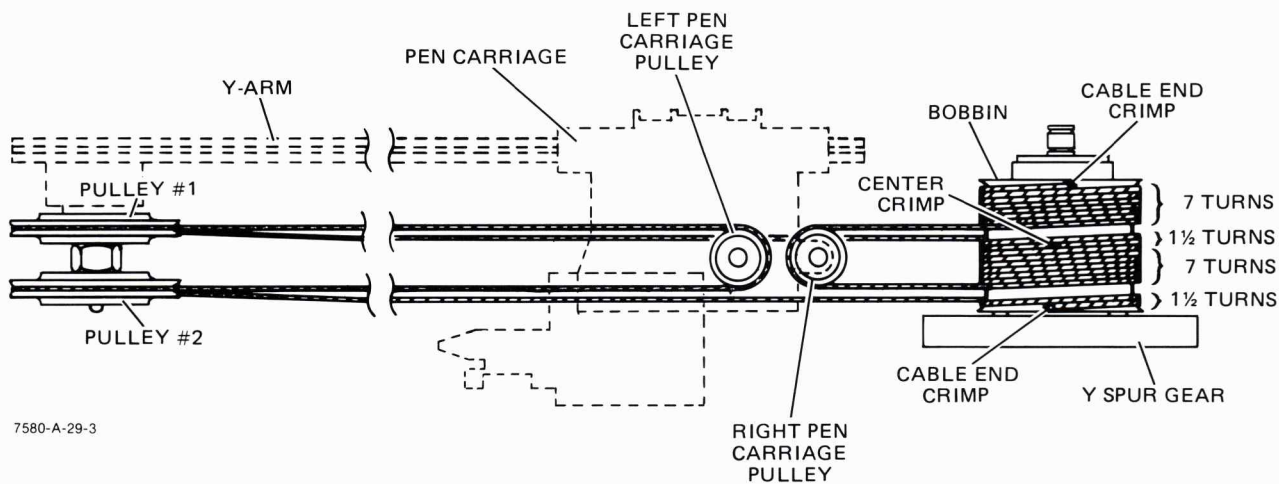

Figure 6-9. Y-Drive Cable Stringing Diagram
6-147. The Y-drive cable stringing diagram is shown in Figure 6-9, Detail B. To string the Y-drive cable, proceed as follows:
- a. Remove the Y-arm assembly from the plotter and position it with the bobbin to the right facing you. To prevent damaging the motor/encoder assembly, set the Y-arm assembly on a flat surface with the right end projecting off the edge of the surface. See Figure 6-9, Detail A.